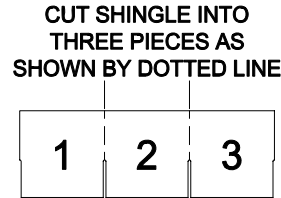

Figure 27. Shingle cut into thirds
4. **Install shingle cap.** Starting at the opposite end of the home from the prevailing wind, install ridge cap shingles provided by the manufacturer or use 12" x 12" shingles (36" shingles cut into three equal pieces) (Figure 27). Install using 12 ga x 1-1/4" long, 3/8" diameter head roofing nails spaced 5-5/8 inches from bottom edge and 1/2 inch to 1-1/2 inches in from both edges. Cover the exposed fasteners with tar or cement.